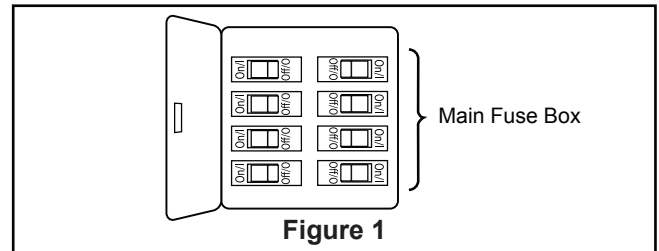
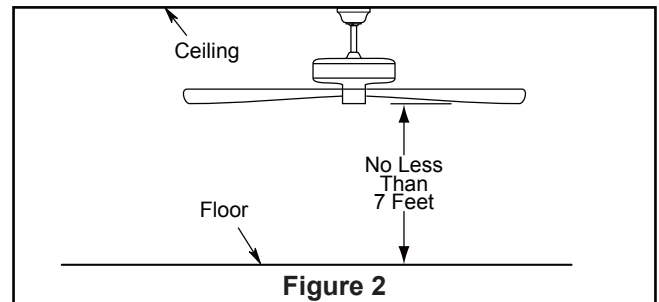
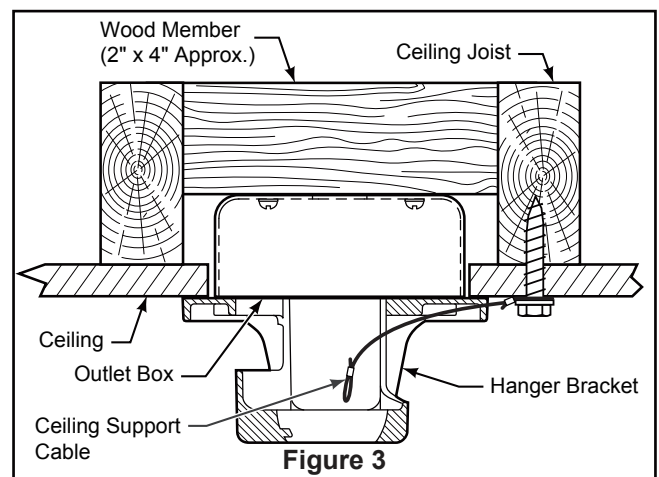

Figure 1
Figure 2
Figure 3
Your new ceiling fan will require a grounded electrical supply line of 120 volts AC, 60 HZ, 15 Amp Circuit. Electrical code requires use of a fan-rated outlet box to support the extra weight and motion associated with a ceiling fan. A fan-rated box will be labeled as such and typically supports up to a 70lb ceiling fan. Fan-Rated Outlet Boxes vary in ratings and design. Ensure the ratings of your ceiling fan outlet box meet the requirements for the ceiling fan being installed. Figure 1, Figure 2 and Figure 3 depicts different structural configurations that may be used for mounting the outlet box.
### Low profile box (Figure 1)
### Deep box (Figure 2)
### Deep box with brace (Figure 3)
1. Remove the hanger ball portion from the downrod/hanger ball assembly by loosening the set screw in the hanger ball until the ball falls freely down the downrod. Remove the pin from the downrod, then remove the hanger ball. Retain the pin and hanger ball for reinstallation in Step 6. (Figure 1)
2. Remove the hairpin clip and clevis pin from the bottom of the downrod. Retain the pin and clip for reinstallation in Step 4. (Figure 2)
3. Loosen the two set screws and locking nuts in the downrod support of the motor housing assembly. Route the brown, blue, red, gray, yellow wires and safety cable through the downrod. (Figure 3)
To avoid possible fire or shock, be sure electricity is turned off at the main fuse box before hanging. (Figure 1)
The fan must be hung with at least 7' of clearance from floor to blades. (Figure 2)
1. Securely attach the hanger bracket to the outlet box using the outlet box screws and washers supplied with the outlet box. (Figure 3)
2. Drill a 1/4" pilot hole into the building structure to prevent splitting or cracking with installation of the lag bolt. Using the 3/8" x 2" lag bolt and flat washer, attach safety cable to ceiling joist or wood structural member. The lag bolt will pass through the flat washer, safety cable loop, and into the building structure. (Figure 3) **NOTE:** Ceiling support cable cannot be secured to outlet box only, it must be directly secured to ceiling joist or structural member using the 3/8" x 2" lag bolt and flat washer. (Figure 3)
1. To set the code on receiver unit, slide dip switches to the same positions as set on the remote control. (Figure 1)
To avoid possible electrical shock, be sure electricity is turned off at the main fuse box before wiring. (Figure 2)
2. Slide the receiver into the hanger bracket before wiring as shown in figure 3.
1. Assemble canopy by rotating key slot in canopy over shoulder screw in hanger bracket, taking care not to pinch the wires. Tighten shoulder screw. Fully assemble and tighten second shoulder screw that was previously removed. (Figure 1)
2. Securely attach and tighten the canopy screw cover over the shoulder screws in the hanger bracket utilizing the key slot twist-lock feature. (Figure 2)
1. Secure the three blades using the 1/4"-20 screws and blade plate assembly through the holes located on the bottom of the motor housing assembly. (Figure 1)
2. Position the trim cover onto the blade plate assembly bottom. (Figure 2)
1. **IMPORTANT:** Using a full range dimmer switch (not included) to control fan speed will damage the fan. To reduce the risk of fire or electrical shock, do not use a full range dimmer switch to control the fan speed. (Figure 1)
2. Restore electrical power to the outlet box by turning the electricity on at the main fuse box. (Figure 2)
3. Remove the battery cover from remote control by screwdriver and retain the screw for later. (Figure 3)